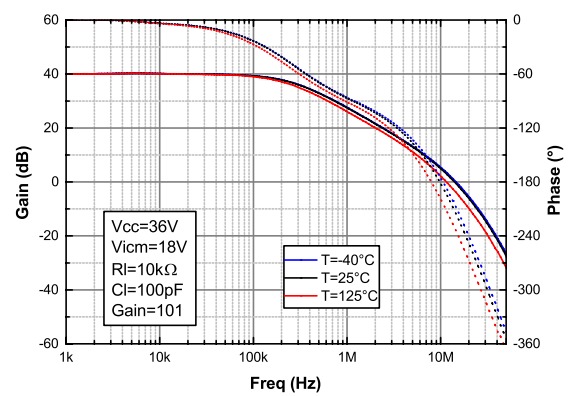
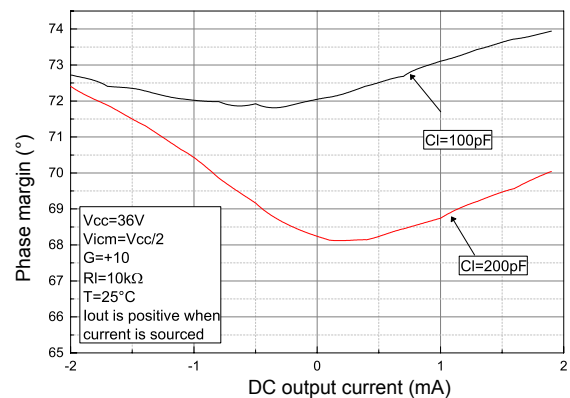

Figure 23. Phase margin vs. output current at $V_{CC} = 5\text{ V}$
Figure 25. Phase margin vs. capacitive load
4. For higher capacitive values see Figure 23. Phase margin vs. output current at \$V_{CC} = 5 \text{ V}\$ and Figure 25. Phase margin vs. capacitive load